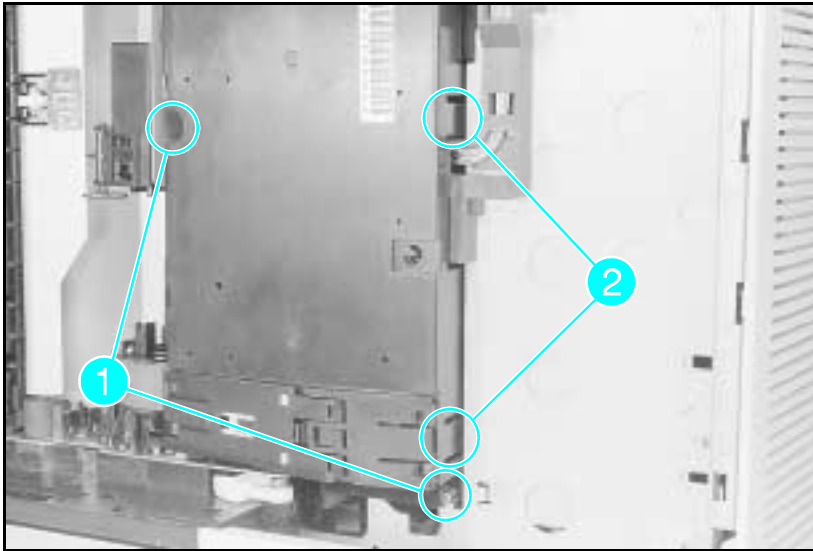

Figure 6-19 HVPS Screws (2) and Latches (2) (Bottom View)
- 3 Remove the (2) screws that hold the HVPS in place (see Figure 6-19, callout 1).
- 4 Release the (2) latches that hold the High Voltage Power Supply (see Figure 6-19, callout 2).
- 6 Remove the HVPS from its housing by releasing the (4) retaining clips that hold the PCA in place.